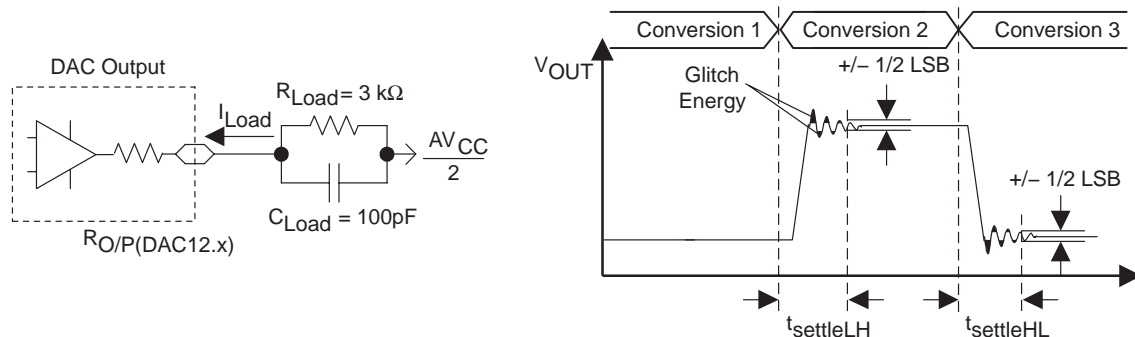
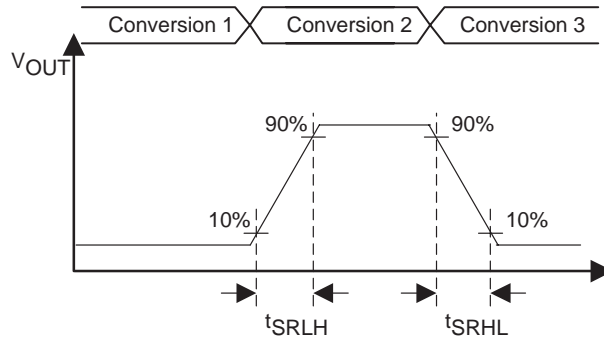

Figure 16. Settling Time and Glitch Energy Testing
Figure 17. Slew Rate Testing
12-bit DAC, dynamic specifications; V_{REF,DAC12} = AV_{CC}, DAC12IR = 1 (see Figure 16 and Figure 17)
- R_{Load} and C_{Load} connected to AV_{SS} (not AV_{CC}/2) in Figure 16.